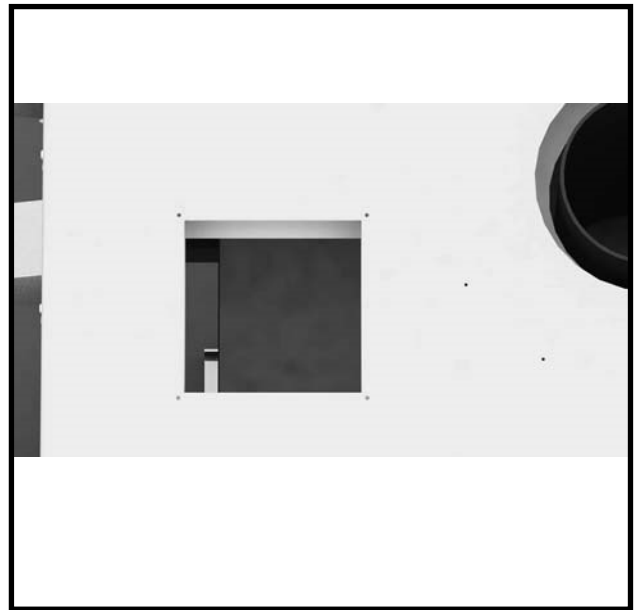

Figure 22: Panel with insulation removed.
2. Cut and remove the insulation directly below the opening, down to the next opening (Figure 22).